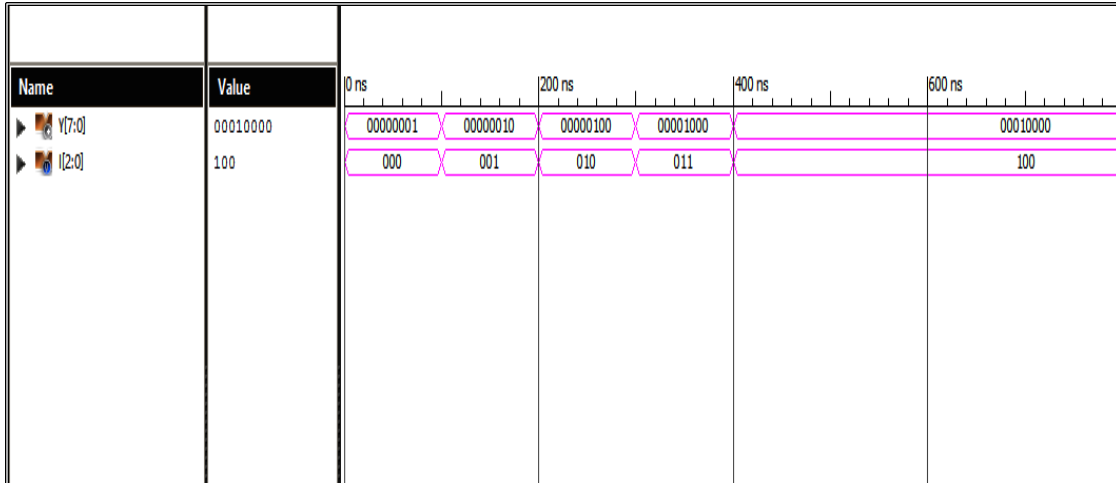

Fig 5.6: Simulated Waveform for Decoder
13. A new window showing the waveforms for the inputs and outputs of the design will be displayed. You can verify the outputs (Fig 5.6).